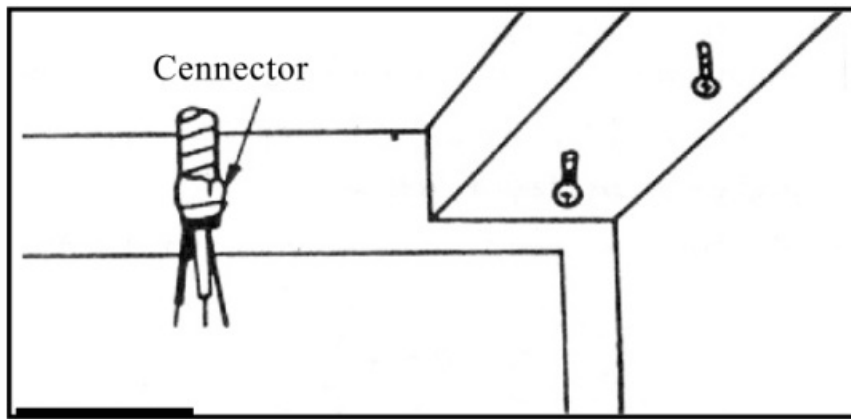

Fig.9 Take the power supply cord through the access hole
6. Take the power supply cord through the access hole drilled on the cabinet. (Fig. 9)